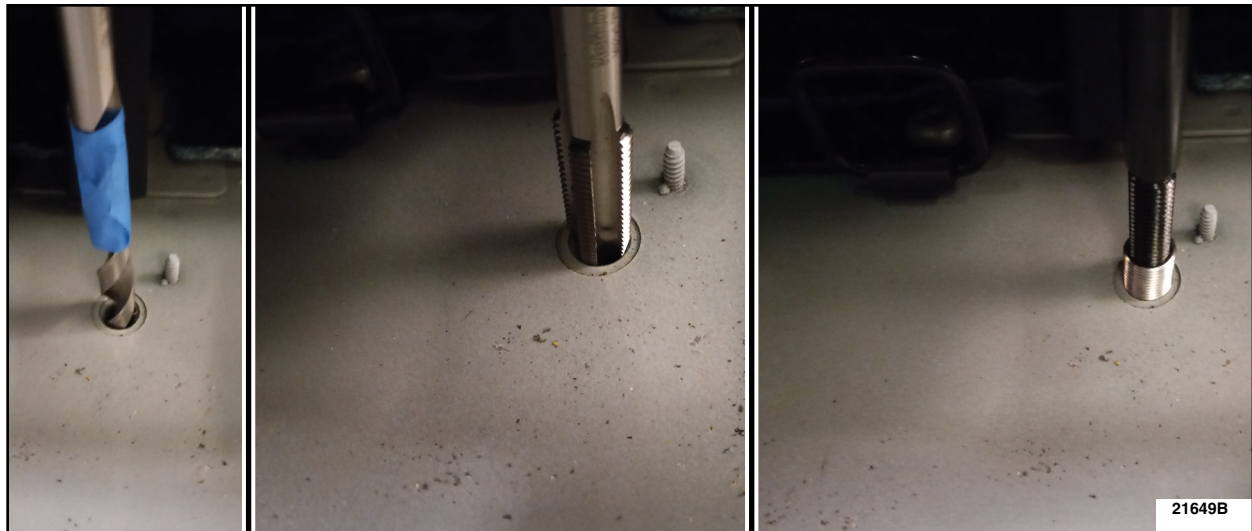

FIGURE 2
2. Using a 3/16" drill bit, drill out the anchor bolt hole. Use a M12 x 1.75 STI tap to tap the hole, then install a of M12 x 1.75 12mm long thread repair insert. See Figure 2.
3. Using a 31/64" drill bit, drill out the anchor bolt hole. Use a M12 x 1.75 STI tap to tap the hole, then install a of M12 x 1.75 12mm long thread repair insert. See Figure 2.